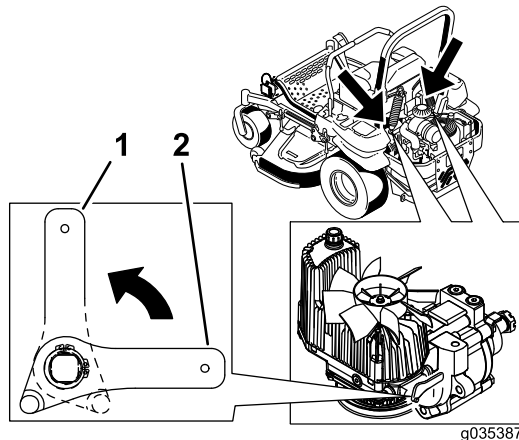

Figure 40
2. Rotate the release-valve levers vertically to push the machine (Figure 40).
4. Rotate the release-valve levers horizontally to run the machine (Figure 40).